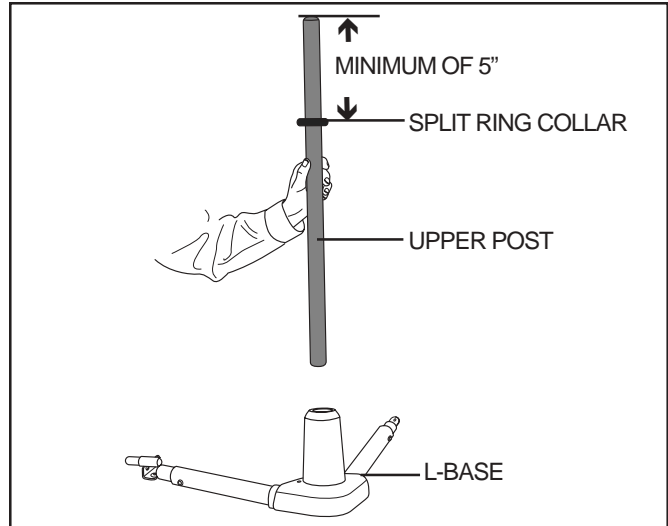

Figure 4. Upper Post Installation
1. Insert the upper post into the L-base. **See figure 4.**
3. Slide the split ring collar over the upper post and tighten both screws (a good starting point is approximately 12 in. down from the top of the upper post). **See figure 4.** To ensure safe operation, the split ring collar must be secured no closer than 5 in. from the top of the upper post.